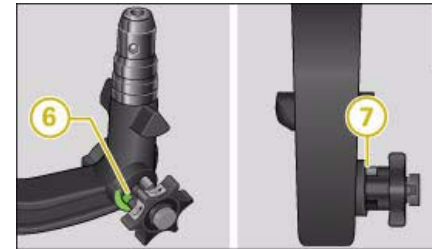

Fig. 201 Removable towing bracket: Safety check
- Check that the green marking **(6)** ⇒ fig. 201 on the knob is inside the green zone on the ball joint.